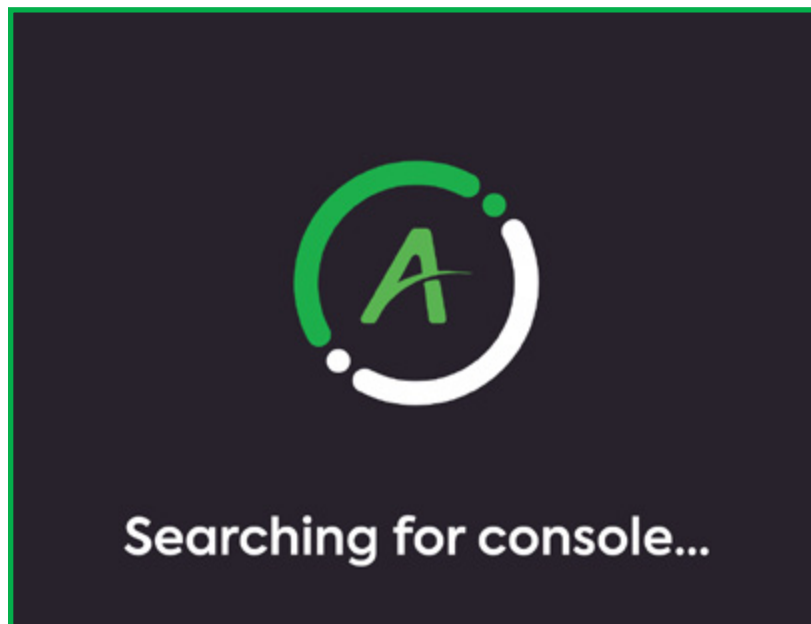

FIGURE 14
4. A screen indicating that the controller is looking for a console will appear. If the controller cannot find the console after 1 minute, move the controller closer to the console. Once the controller found the console, an identification procedure will appear on the display. (Figures 14, 15)